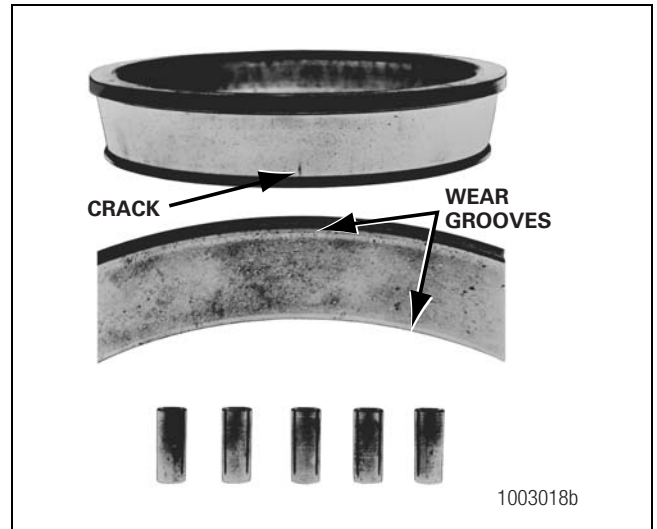

Figure 5.2
- Deep cracks or breaks appear in the surfaces of the cup, cone inner race or rollers. Figure 5.2.